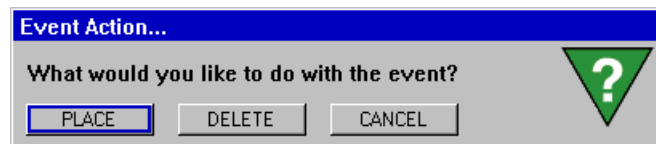

Figure 40: Event Action
- 4 Press the rotary knob to select the Event and select one of the following Actions (see Figure 40 below):